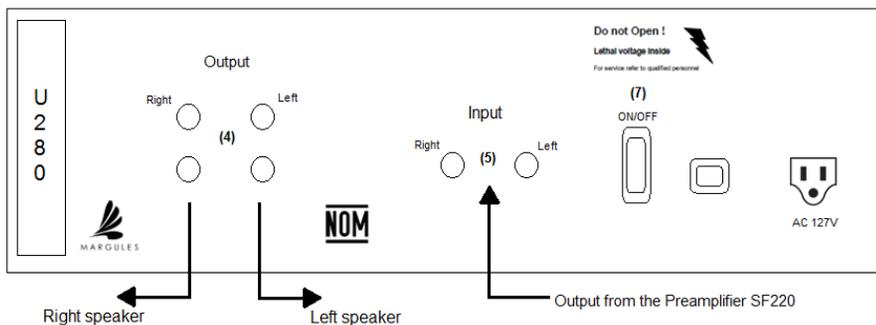

Figure 1. Interconnection diagram
Next, connect the speakers to the output binding posts, red to red and black to black (4); the input signal of the amplifier to the output signal of the preamplifier (5), see also figure 1 for more details.